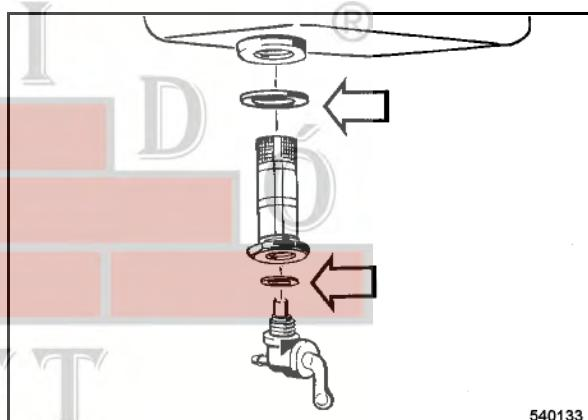

Fig. 55 □
- Screw fuel screen and fuel valve back in, both with new seals (Fig. 55).